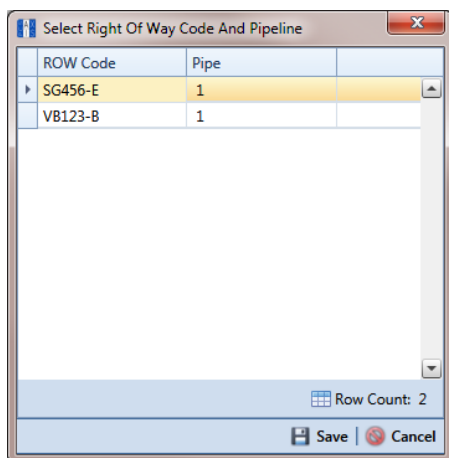
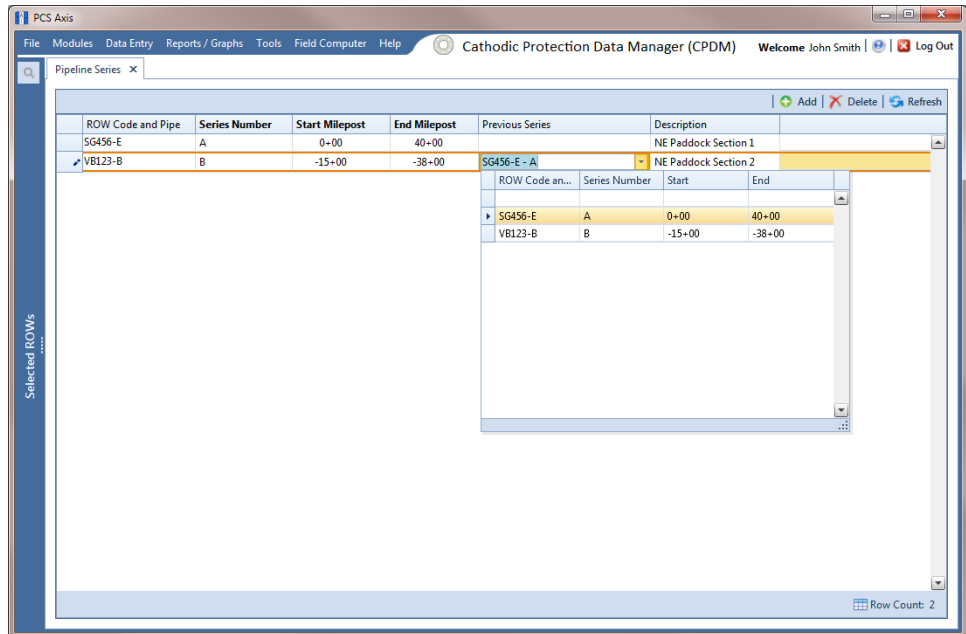

Figure 3-71. Select Right Of Way Code And Pipeline
Figure 3-73. Pipeline Series
- 4 Click **+** **Add** and then select the *ROW Code* and *Pipe* you want to work with in the dialog box that opens (Figure 3-71).
- 10** If you want to add another *Series*, complete the following steps to create a pipeline *Series* chain (Figure 3-73):
NOTE: PCS Axis uses the preceding *Series* of each *Series* in a chain to calculate the *Relative Milepost*. All *Series* in a chain except the first *Series* require that you identify the *Previous Series* (Figure 3-73).
The following example illustrates a pipeline *Series* chain with two *Series* in the chain (Figure 3-73). *Series A* was added for the original pipeline segment with a start and end milepost of 0+00 and 40+00 respectively. *Series B* was added for a pipeline extension. Because the mileposts are in reverse order in *Series B*, the *Pipeline Series* is set up with a start and end milepost of -38+00 and 0+00 respectively. Also see Figure 3-71 (page 123) for an illustration of a pipeline *Series* chain with calculated *Relative Mileposts*.